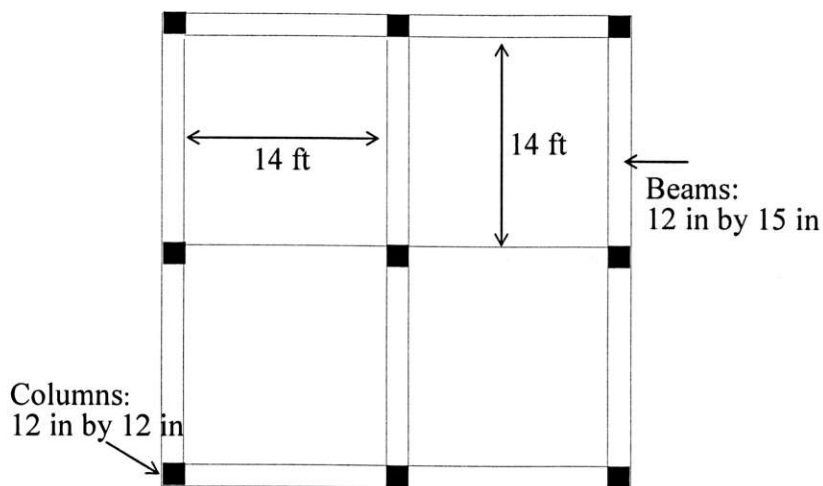

Figure: 1
1. (a) Refer to the following slab system of a two-storied building (**Figure: 1**). For the slab (10)